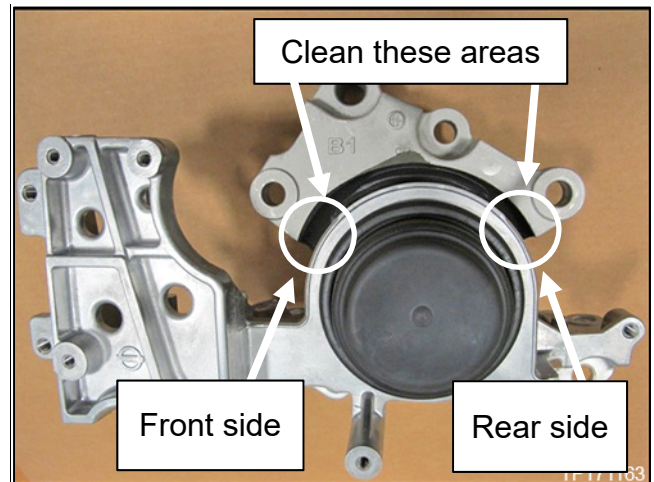

Figure 15
26. Clean the front and rear inspection areas shown in Figure 15 with mild soap and water.